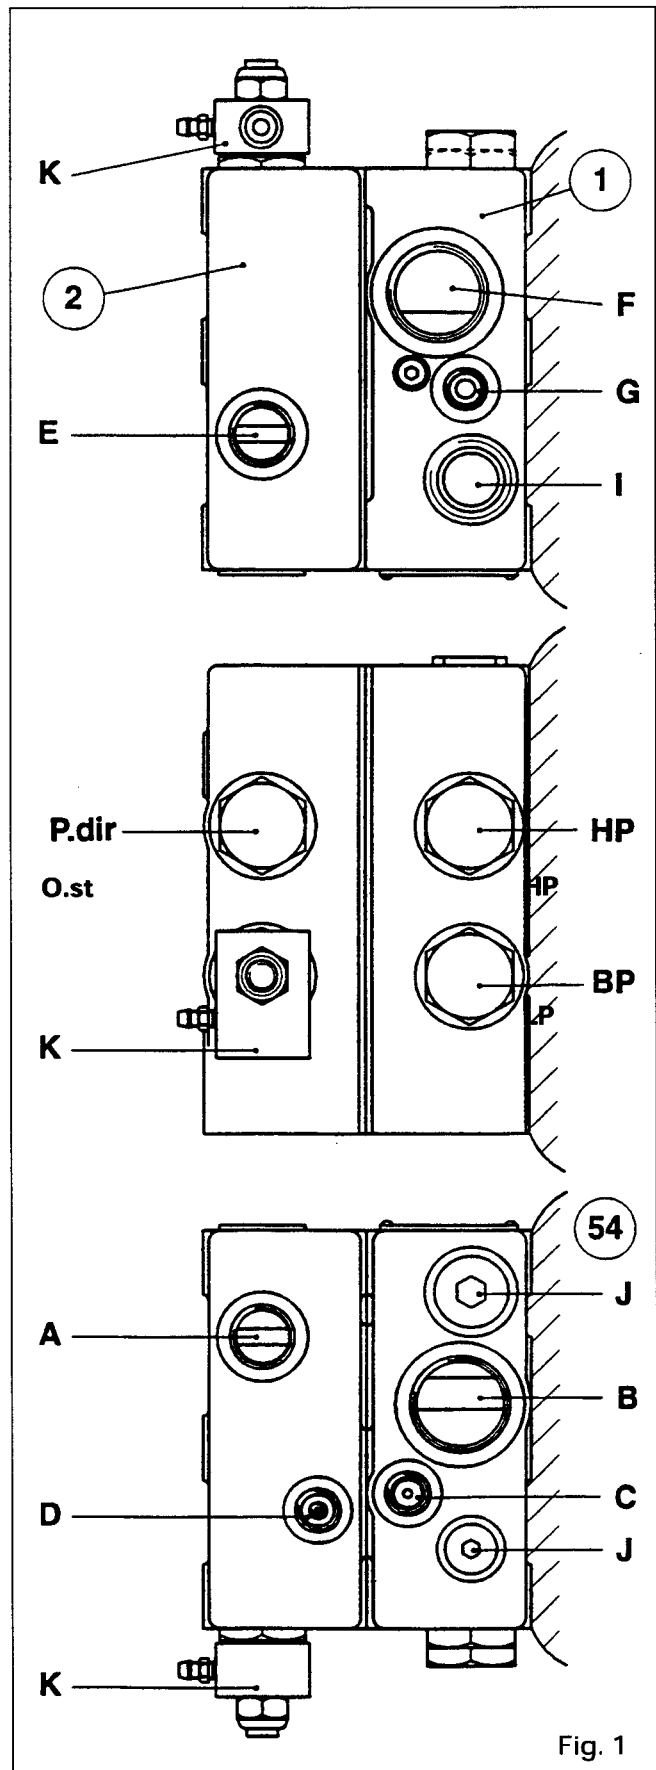

Fig. 1
The inner unit **(1)** (Fig. 1) ensures priority to the 17-bar circuits and the lift control valve mounted on the auxiliary spool valve assembly.
**A . Identification of ports (Figures 1 and 2)**
**Note:** As the hydraulic unit is fitted on the cover (54), high-pressure port "B" of the inner unit (Fig. 1) communicates directly with the output of the variable-displacement pump.